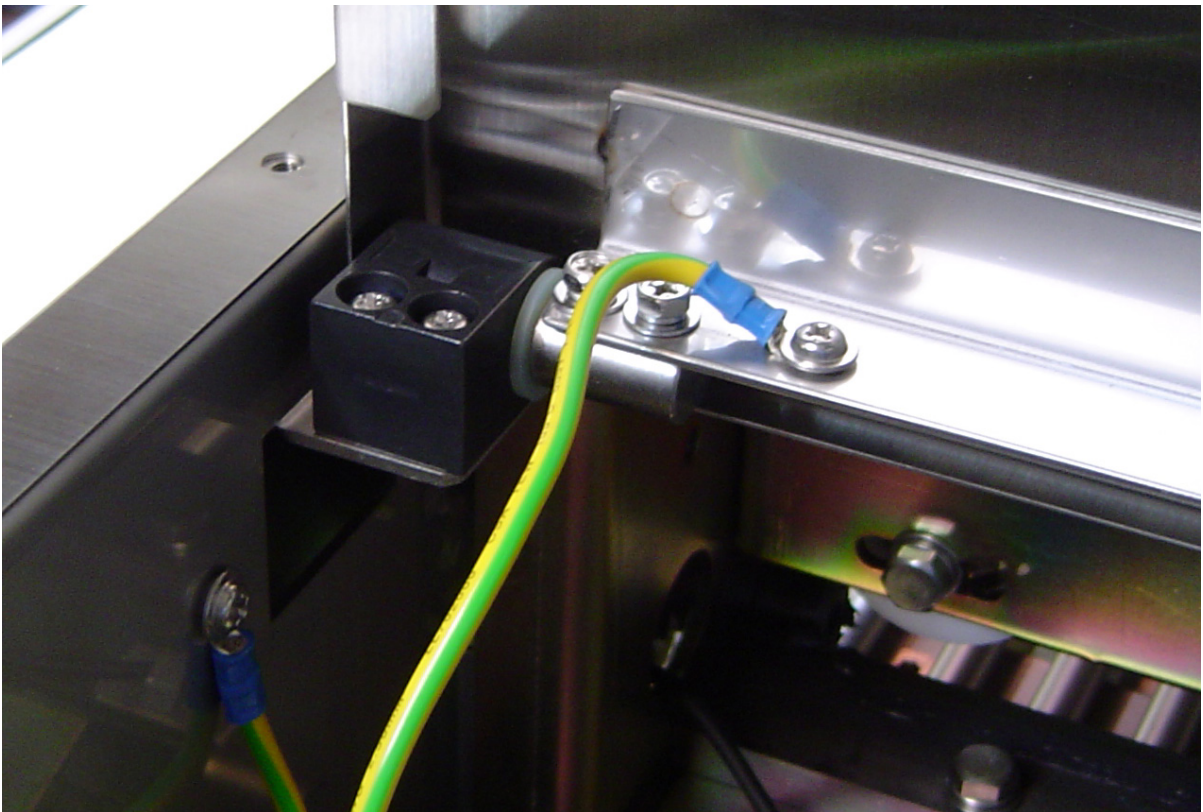

Figure 11. Film Loading top door hinge.
- c. Move top, right Film Loading door -- remove 4 screws, two each hinge. **[See Figure 11]**